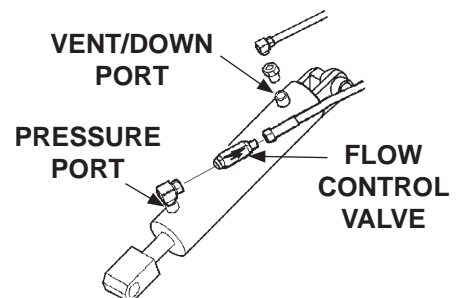

FIG. 53-3
2. Check the hydraulic cylinder. With the platform on the ground, remove the breather plug or vent line from the vent/down port of the cylinder (**FIG. 53-3**). Raise the platform even with the bed. Allow pump motor to run two seconds more while you watch for hydraulic fluid at the vent/down port. A few drops of hydraulic fluid escaping the vent/down port is normal; however, if it streams from the vent/down port, piston seals are worn. Replace seals.
3. Check and clean flow control valve in high pressure hydraulic line attached to cylinder. When installing flow control valve, make sure arrow on valve is oriented as shown in **FIG. 53-3**.